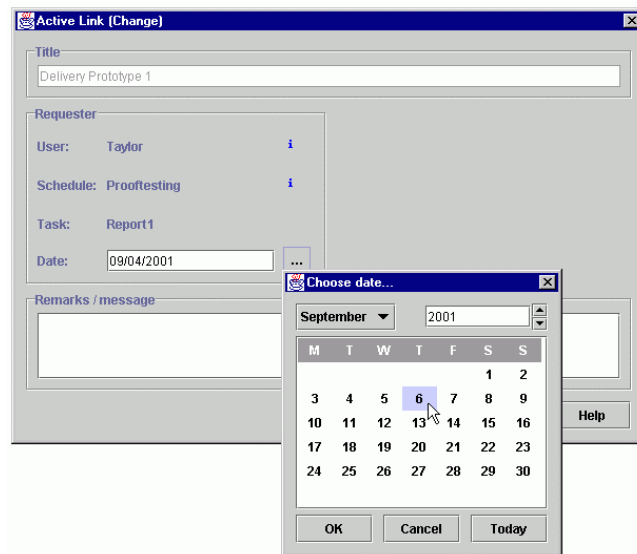

Figure 88: User "Taylor" is permitted to make changes in the edit dialog box for the Active Link on the supplier side only.
- An edit dialog box opens for the Active Link (Figure 88). It contains full information on the link from the requester (left) and the supplier (right). Make any desired changes here. All fields which you are not authorized to change are disabled. One example of this is the title which may be changed by the requester but not by the supplier. Confirm your input with *OK*.